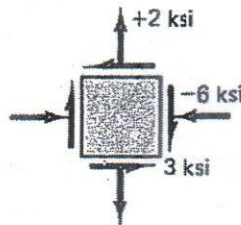

Fig. 12
- (b) Using Mohr's circle, determine the angle between the right-hand face of the element shown in Fig. 12 and the plane or planes where the normal stress is zero. Show the stresses with proper sense on the rotated element(s). (15)